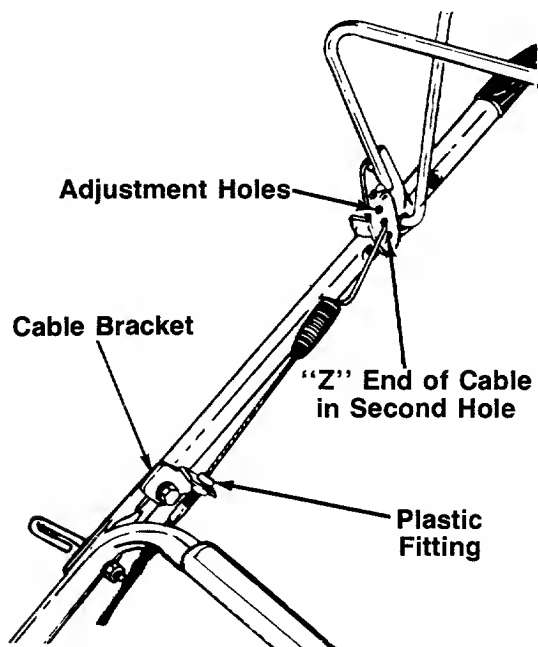

FIGURE 7.
1. The drive clutch control cable is attached to the drive cover, and has a spring on one end. Route the clutch cable inside the handle mount bracket and under the lower handle. Hook the spring on the end of the cable into the second hole from the bottom on the drive clutch control handle. See figure 7.